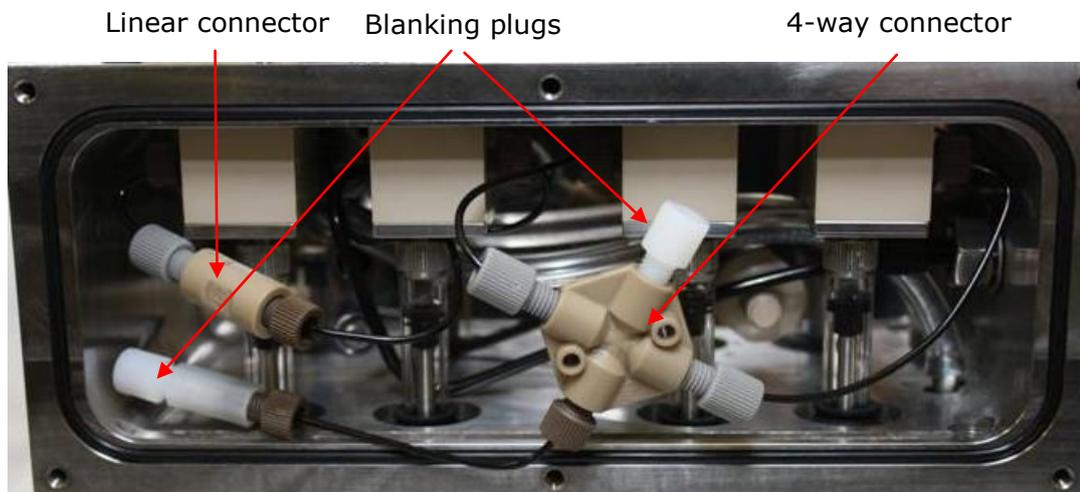
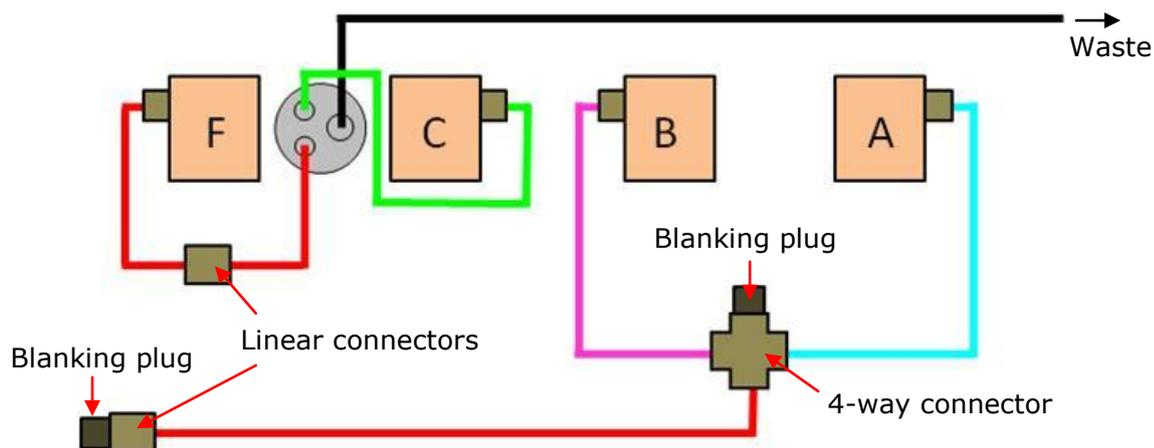

Figure 5.7: flow tubing connections for single-mix operation
Figure 5.8: schematic of the flow tubing connections for single-mix operation; the tubing sections are colour coded for clarity
3. Configure the flow circuit as shown in Figure 5.7 (below), and schematically in Figure 5.8 (overleaf), with the F valve connected directly to the pressure plate using the linear connector. The C valve remains connected directly to the pressure plate. The A and B valves, which connect to the 4-way connector, are not used and the free arms of the connector should be plugged.